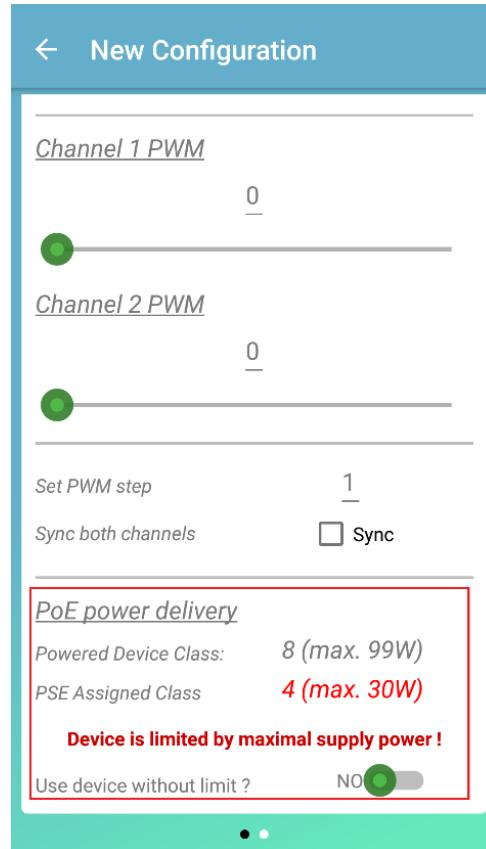

Figure 16. Power Limits Alert
If powering the connected Lighting Platform via PoE, the platform detects the type of power supply and sends a notification to the mobile app. Power limits, required power class of the Powered Device (PD) and Power Supply Equipment (PSE) are displayed at the bottom of the screen, as shown in **Figure 16**.